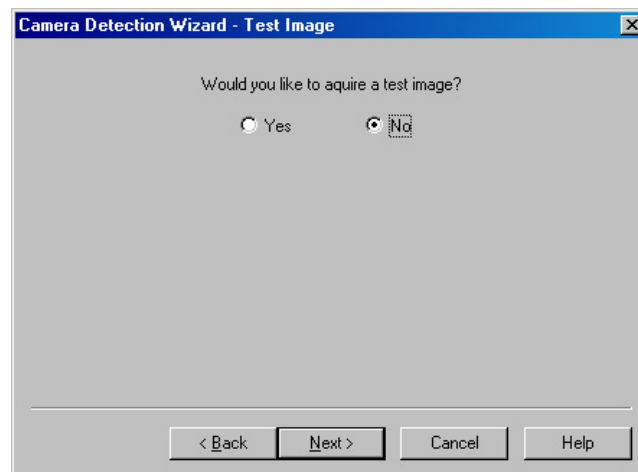

Figure 13. Camera Detection Wizard - Test Image dialog
4. When you have finished with these selections, you will see the **Test Image** dialog (Figure 13). The default selection is "**No**". If you select "**Yes**", you must make sure that the system is connected to the host computer and that the camera system is turned **ON** before you click on the **Next** button.